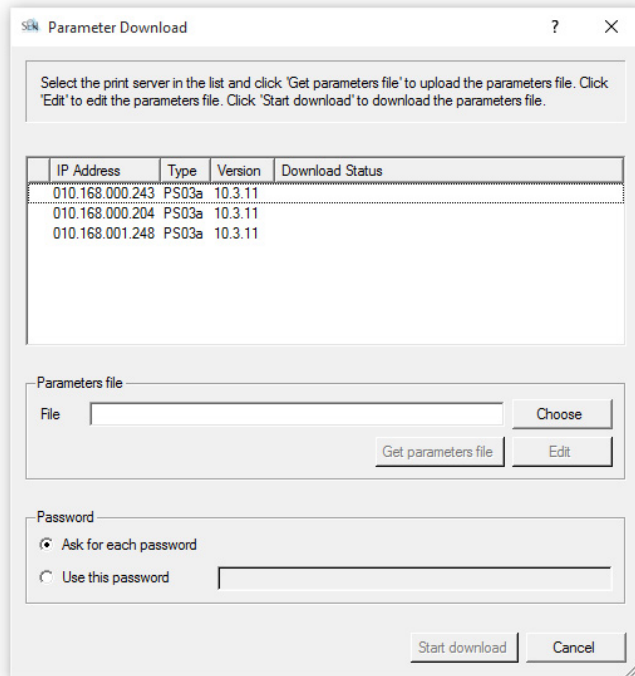

Fig. 7: InterCon-NetTool – Parameter download
3. *Select Actions – Download parameters file an. The Parameter Download dialog appears; see Fig. 7 ⇨  121.*
*The Parameter Download dialog appears; see Fig. 7 ⇨ 121.*